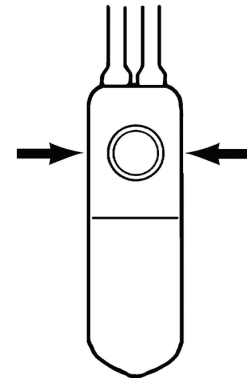

Figure 4-42. Side Squeeze Method
1. Squeeze sides of control pump adjacent to deactivation button to allow fluid to fill the pump bulb. (**Figure 4-42**)